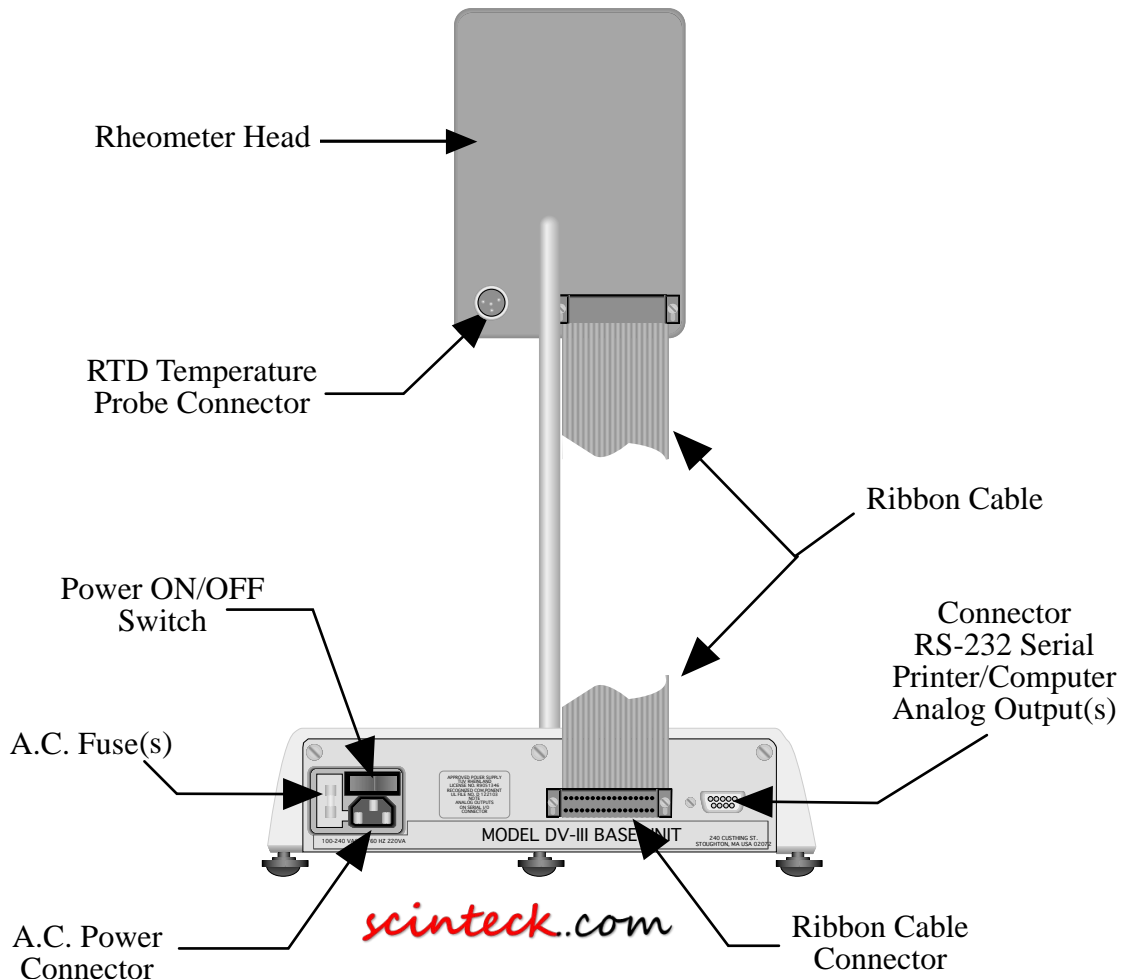

Figure 3
- 4) Select the ribbon cable end with the adjacent, heavy, black mass. Insert this end of the ribbon cable into the DV-III Rheometer head. Insert the other end of the ribbon cable into the connector on the DV-III base (see Figure 3).
- 5) Connect the RTD probe to the socket on the back side of the DV-III Rheometer (Figure 3).